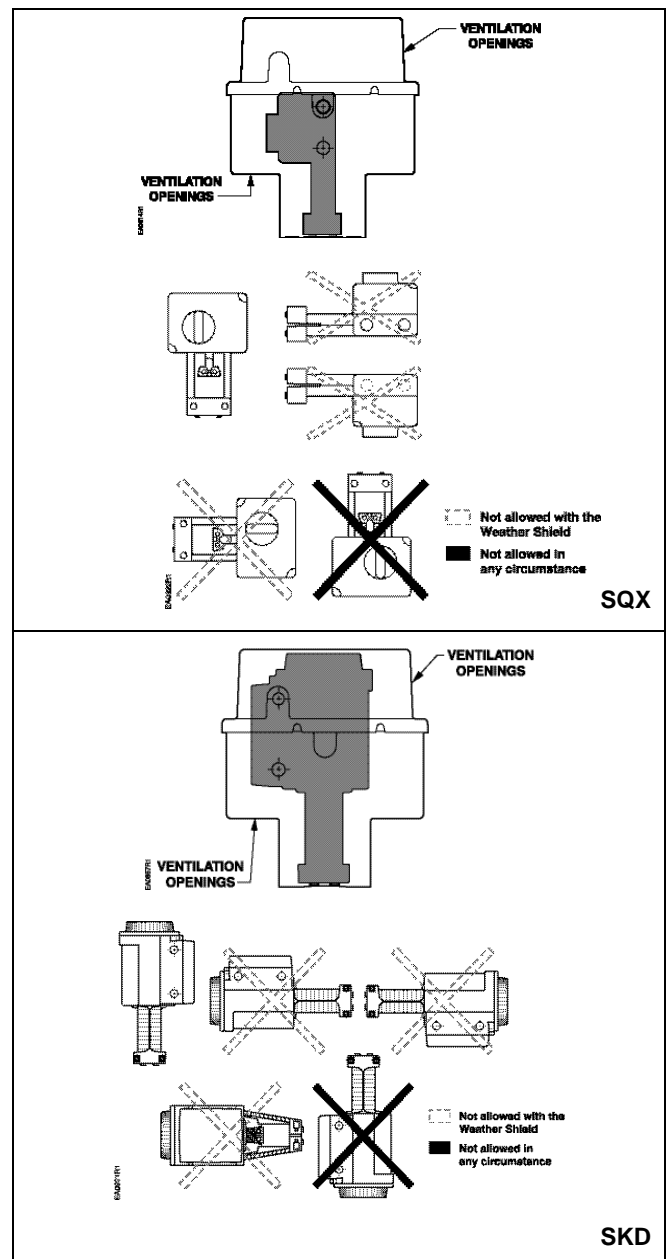

Figure 1. Mounting Orientation.
2. The SKD and SQX actuators are UL listed to meet NEMA Type 3R rating (a degree of protection against rain, sleet and damage from external ice formation) when installed with this Weather Shield in the orientations shown in Figure 1.